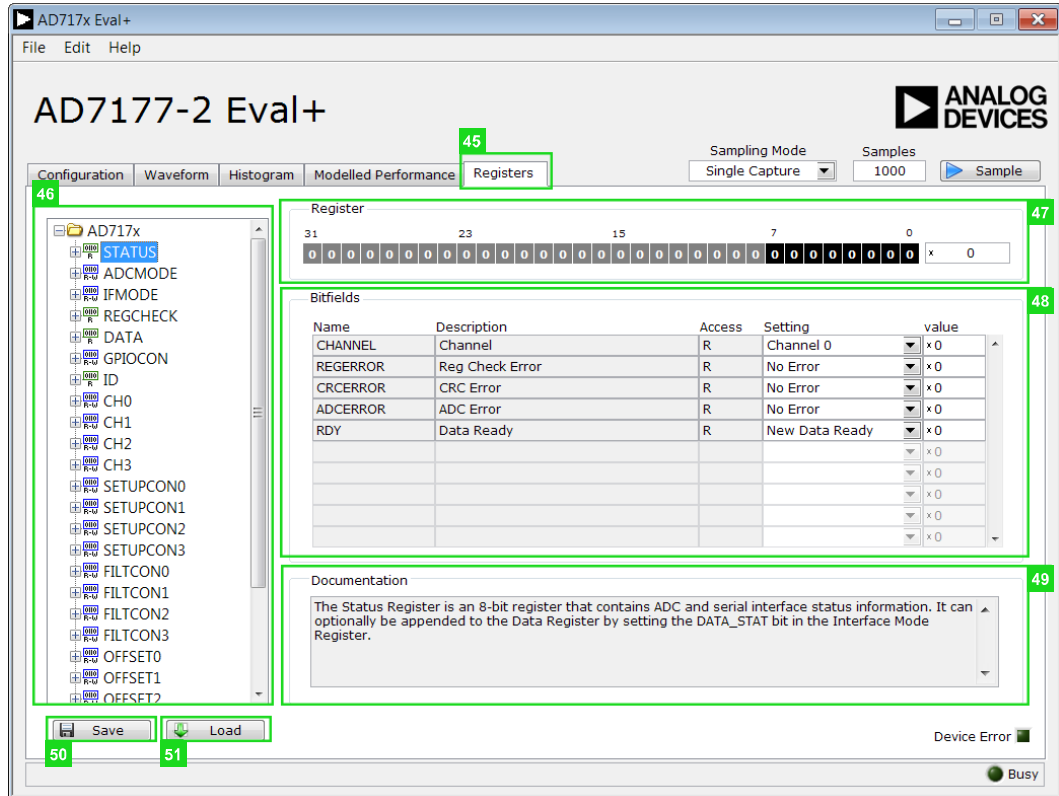

Figure 23. **Registers** Tab of the AD717x Eval+ Software
Figure 23 shows the **Registers** tab (45).